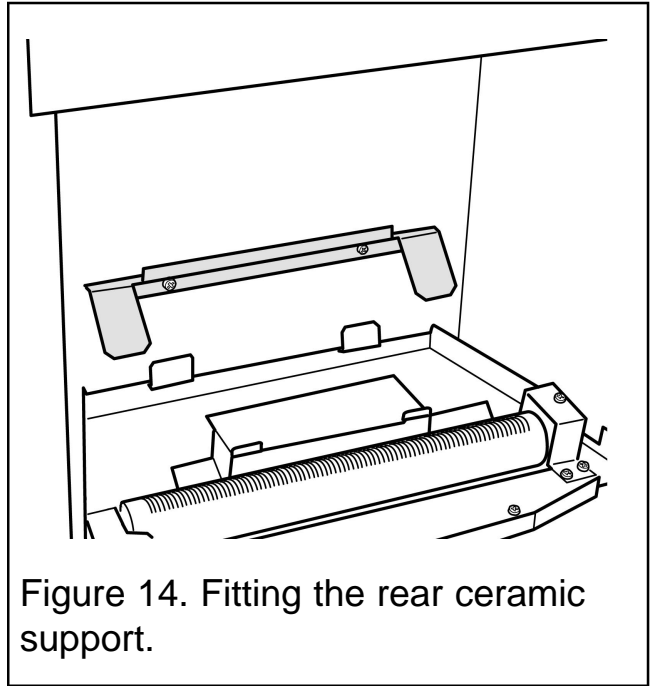

Figure 14. Fitting the rear ceramic support.
7. This appliance is supplied with a rear ceramic support bracket. Fit this using two screws supplied (See figure 14)